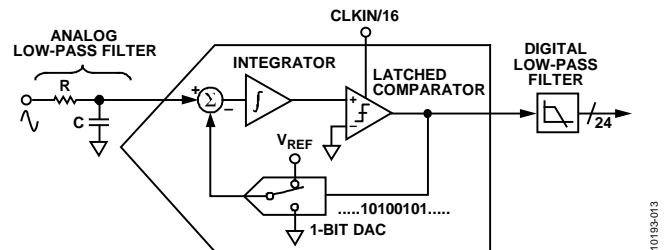
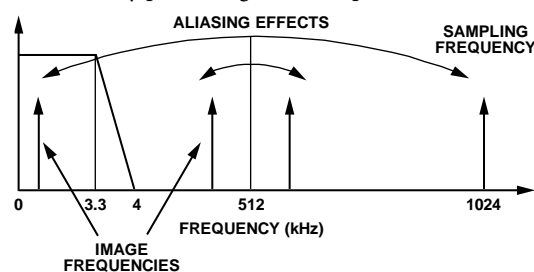

Figure 38. First-Order Σ - Δ ADC
Figure 40. Aliasing Effects
For simplicity, the block diagram in Figure 38 shows a first-order Σ - Δ ADC. The converter is composed of the Σ - Δ modulator and the digital low-pass filter.
Figure 38 also shows an analog low-pass filter (RC) on the input to the ADC. This filter is placed outside the ADE7880, and its role is to prevent aliasing. Aliasing is an artifact of all sampled systems as shown in Figure 40. Aliasing means that frequency components in the input signal to the ADC, which are higher than half the sampling rate of the ADC, appear in the sampled signal at a frequency below half the sampling rate. Frequency components above half the sampling frequency (also known as the Nyquist frequency, that is, 512 kHz) are imaged or folded back down below 512 kHz. This happens with all ADCs regardless of the architecture. In the example shown, only frequencies near the